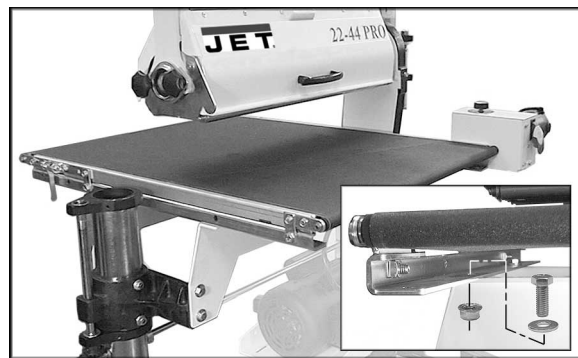

Figure 7
2. Remove conveyor table from packaging, and place it on the mounting brackets of the stand. The gear motor should be on the right, or inboard side of the sander as shown in Figure 7.